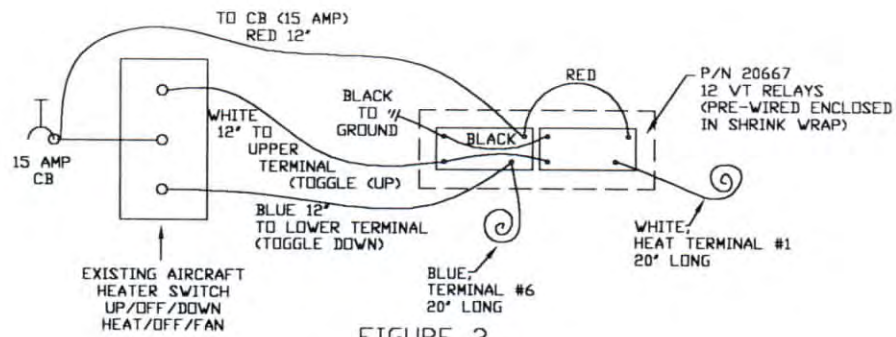

FIGURE 3
- a. If using existing aircraft heater control switch install P/N 20667, controlling relays in accordance with Figure 3